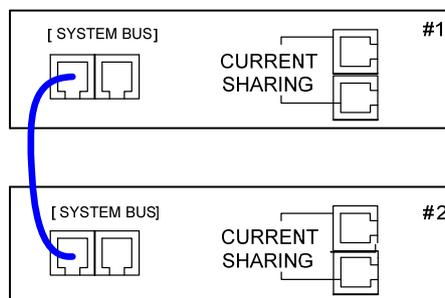
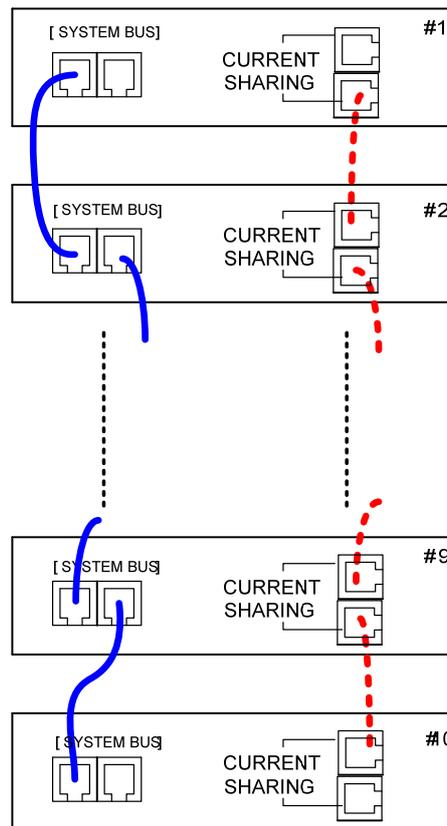

Figure 3-29
Figure 3-30
1. When the DC Power Supply is connecting in series for operation, the SYSTEM BUS connectors on the rear panel must be connected as Figure 3-29 shows.
2. When the DC Power Supply is connecting in parallel for operation, besides the SYSTEM BUS connectors on the rear panel need to be connected, the **CURRENT SHARING** connectors have to be connected as well as Figure 3-30.
1. Each DC Power Supply has two RS485 interface female connectors. They need to be connected either in series or parallel operation. There is no difference between left and right; just to connect one after another as Figure 3-29 or Figure 3-30 shows in solid line.
2. Each DC Power Supply has two CURRENT SHARING connecting terminals. Connect the output terminal of the first Power Supply to the input terminal of the second Power Supply and so forth as Figure 3-30 shows in dot line. Be sure to use the CURRENT SHARING communication cable provided by CHROMA.
Connect the cables on the rear panel as Figure 3-29 shows when set to SERIES and as Figure 3-30 shows when set to PARALLEL.